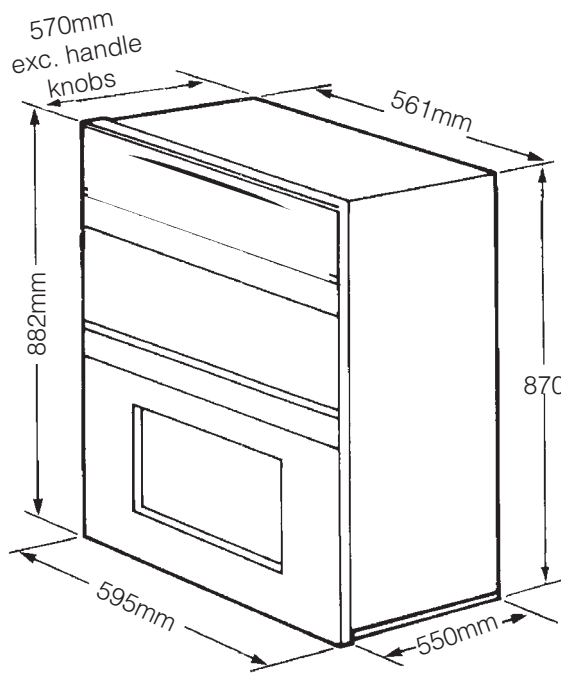

Fig. 2
2. Turn the two securing brackets back to their original position to retain the glass and tighten the screws (Fig. 2.)